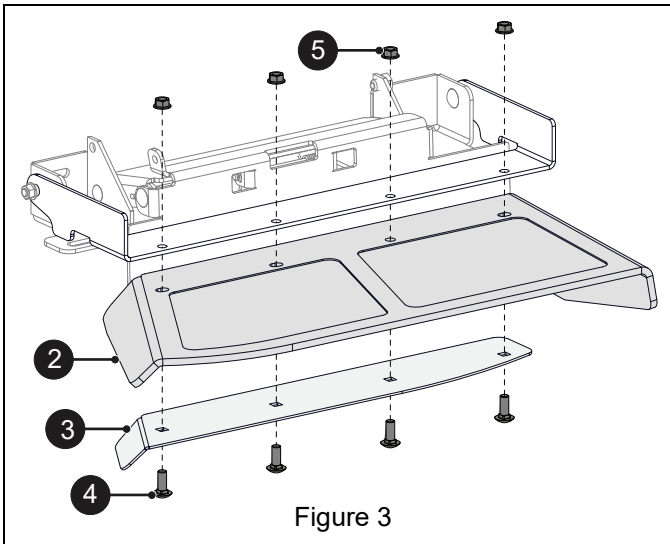

Figure 3
1. Position rubber discharge chute (item 2) and chute clamp plate (item 3) on the discharge chute (item 1) mounting bracket and retain using four 3/8" x 1" round head square neck bolts (item 4) and four 3/8" nylon locking center flange nuts (item 5). Bolts install from bottom up. See Figure 3.